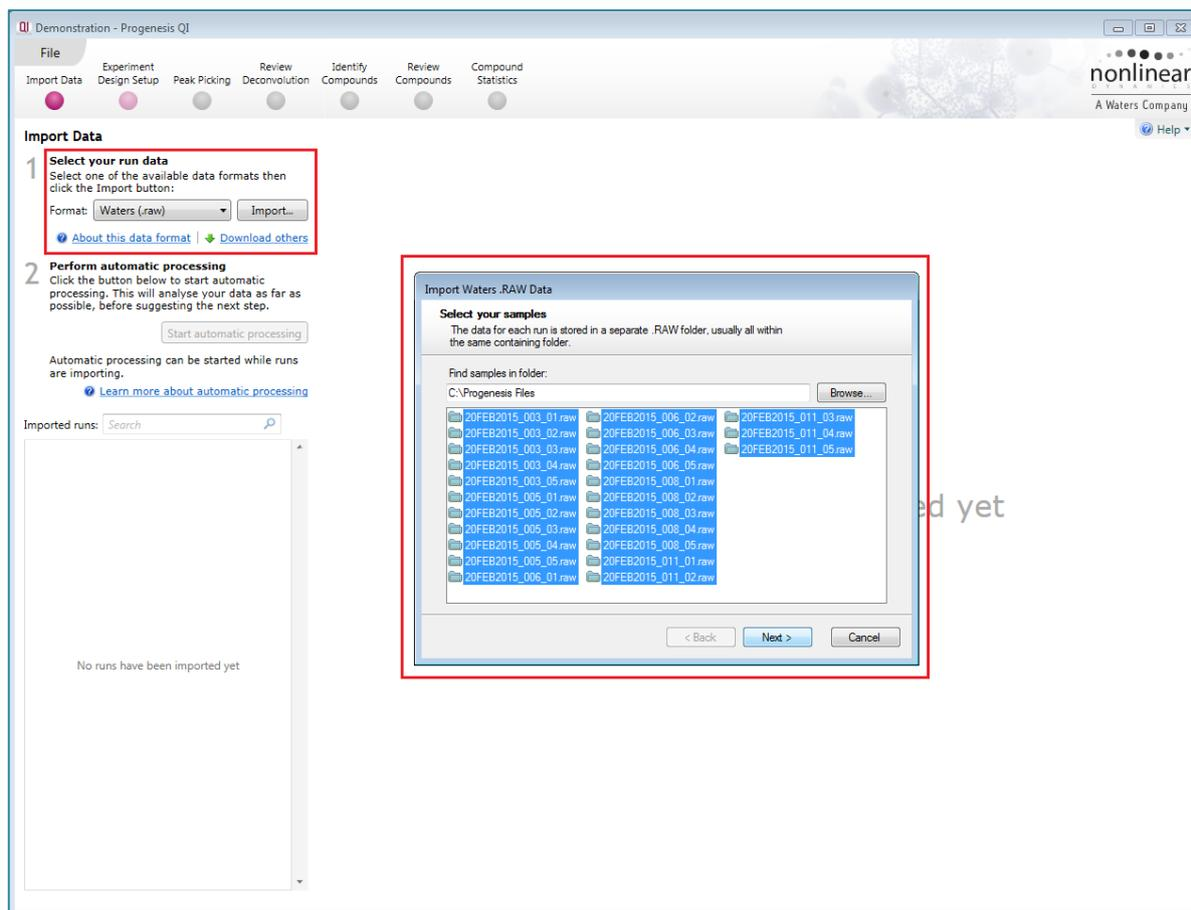

Figure 5: Selecting the correct file format, and the samples to be imported. Each sample is one 'burn' from an original multi-burn acquisition.
1. At the **Import Data** page, select the **Waters (.raw)** format (Figure 5).
3. In the pop-up dialog, navigate to and select the folder that the raw files are contained within (Figure 5).